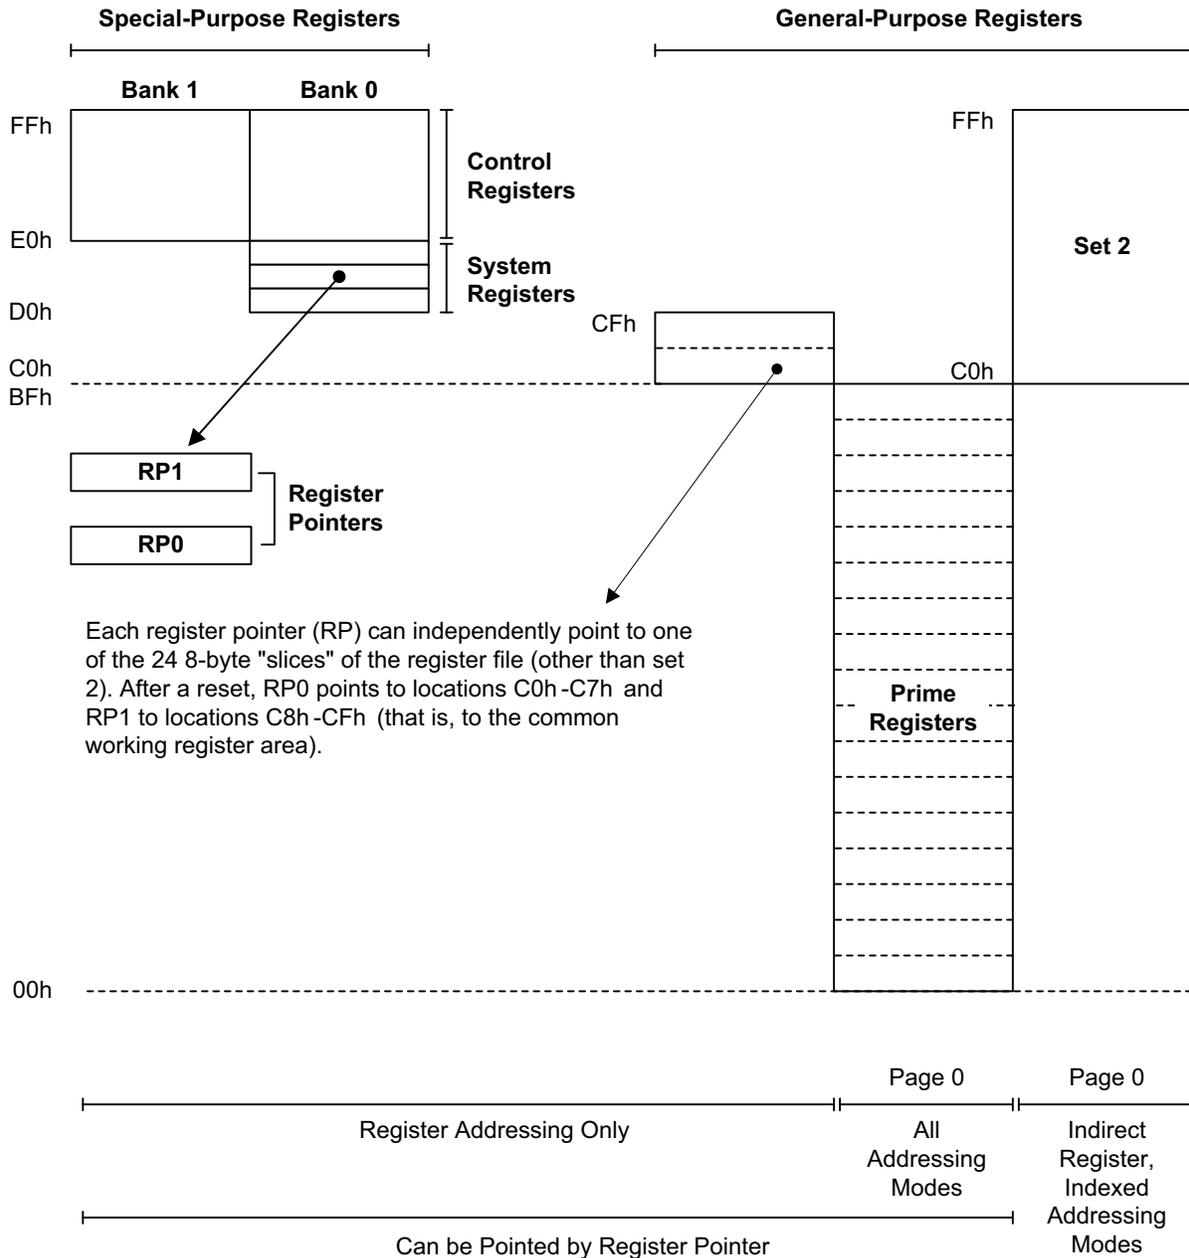

Figure 21. Register File Addressing
► **Note:** As shown in Figure 21, only page0 is implemented in the S3F80P9 microcontroller. Page0 contains all of the addressable registers in the internal register file.